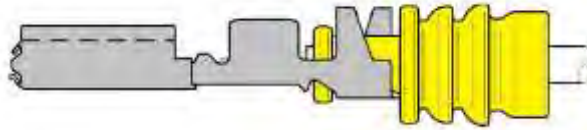

Figure 132
- (10) Close the handles of the tool until the contact is lightly held by the die set but is not deformed to the point where the wire cannot enter freely.
- (11) Insert the wire and wire seal into the crimp barrel of the contact until it butts against the spring-loaded locator. Ensure the wire and wire seal are positioned correctly in the contact (Figure 132). Contact not shown in crimper for clarity.